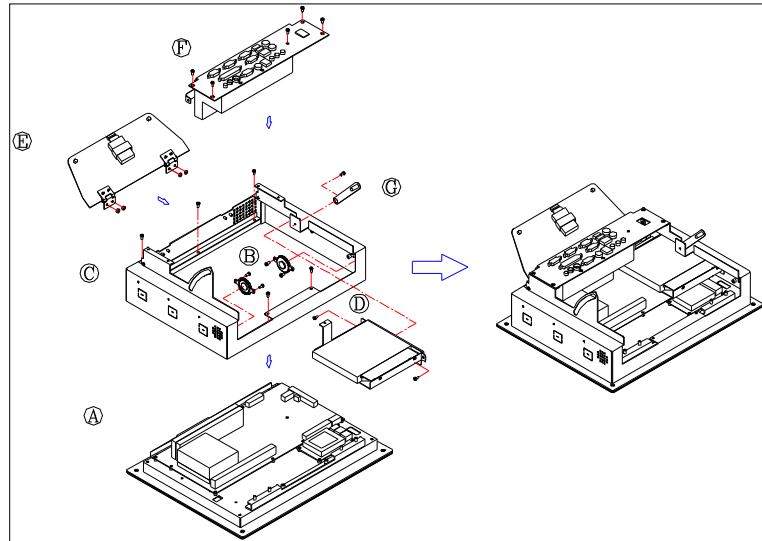
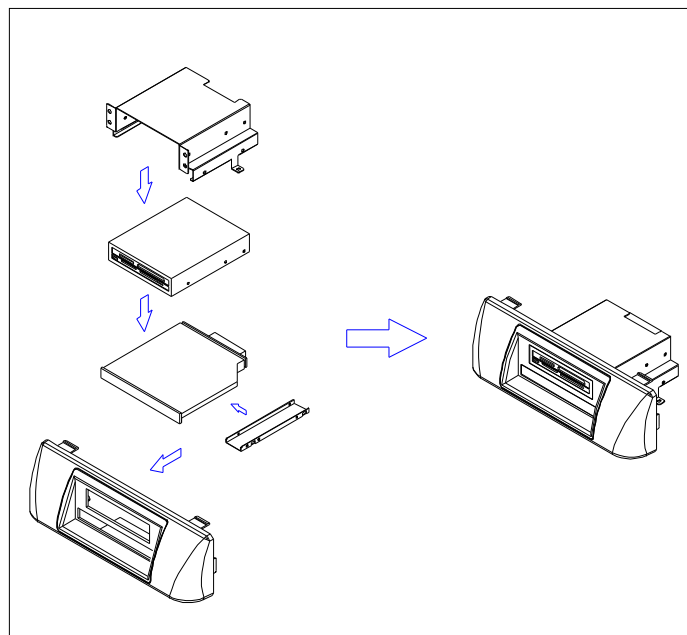

FIGURE 3-8: PANEL PC MODULE ASSEMBLY
FIGURE 3-13. MEDIA READER/CD-ROM MODULE ASSEMBLY
If a thermal receipt printer is integrated with the Kiosk, due to space limitation, the slim CD-ROM device is to be installed in the panel PC chassis as illustrated in Fig. 3-8 and accessed from the right side of the Kiosk cabinet. If no receipt printer is integrated with the Kiosk, the slim CD-ROM device can be integrated with the media card reader module and accessed from the front side.
The panel PC's individual modules are now ready to be integrated to a complete panel PC module. Refer to Fig. 3-8.
1. The first parts to be assembled to the Kiosk cabinet are four M8*23.7 rubber feet. Acting as bumpers to prevent the table surface from abrading by the metal base of the Kiosk cabinet, the rubber feet are simply to be driven tightly to the metal cabinet from the base (A).
2. Fix the two butt hinges (B) to the cabinet with two M3 K-lock nuts for each. The K-lock nuts are zinc-plated nuts with attached free-spinning external teeth lock washer. The external teeth are used for locking and tension. The two butt hinges are used to retain the panel PC module to the cabinet later.
3. Fix the metal bracket (C) to the cabinet with two TMS M3*4 screws. This metal strip is used to click the plastic printer bezel (M) into the Kiosk cabinet.
4. Connect the two USB cables to the USB outlets (D) located at the right side of the cabinet.
5. Retain the support bracket catch (E) to the left side of the cabinet with two M3 nuts. This bracket is used to accommodate the support bracket (Fig. 3-8, G) to sustain the PC module when it is integrated to the Kiosk cabinet.
6. Fix the heat pipe (F) to the left bottom side of the cabinet with two M3 nuts. The heat pipe is used to direct the cabin heat generated by the power supply out of the cabinet.
7. The Kiosk cabinet provides one 50*50*10mm cooling fan (G) to accelerate the cabin ventilation. Attach this cooler to the right side of the Kiosk cabinet with four M3 nuts.
8. Insert the power cord (H) from the opening at the left bottom side of the cabinet. Connect the power cord to the power module and integrate the power module (I) to the left bottom side of the cabinet with three TMS M3*6 screws.
9. Fix the HDD module (J) to the right bottom side of the cabinet with three TMS M3*6 screws. Connect the big 4-pin power cable from the power module to the HDD.
10. Make sure all the cables from the printer power module (K) to the printer module (L) are already properly connected.
11. Integrate the printer power module (K) to the left upper side of the cabinet with three M3 nuts. Retain the printer module (L) to the bottom of the cabinet with four TMS M3*4 screws.
13. Attach the plastic printer bezel (M) to the Kiosk cabinet front side and clip it into place.
3. Fix the metal bracket (C) to the cabinet with two TMS M3*4 screws. This metal strip is used to click the plastic media reader bezel (M) into the Kiosk cabinet.
4. Retain the support bracket catch (E) to the left side of the cabinet with two M3 nuts. This bracket is used to accommodate the support bracket (Fig. 3-8, G) to sustain the PC module when it is integrated to the Kiosk cabinet.
5. Fix the heat pipe (F) to the left bottom side of the cabinet with two M3 nuts. The heat pipe is used to direct the cabin heat generated by the power supply out of the cabinet.
6. The Kiosk cabinet provides one 50*50*10mm cooling fan (G) to accelerate the cabin ventilation. Attach this cooler to the right side of the Kiosk cabinet with four M3 nuts.
7. Insert the power cord (H) from the opening at the left bottom side of the cabinet. Connect the power cord to the power module and integrate the power module (I) to the left bottom side of the cabinet with three TMS M3*6 screws.
8. Fix the HDD module (J) to the right bottom side of the cabinet with three TMS M3*6 screws. Connect the big 4-pin power cable from the power module to the HDD.
9. Retain the media reader/CD-ROM module (K) to the bottom of the cabinet with four TMS M3*4 screws.
10. Attach the plastic media reader bezel (M) to the Kiosk cabinet front side and clip it into place.
11. Insert the panel PC support bracket (Fig. 3-8, G) into the bracket catch (Fig. 3-13, E) at the left side of the Kiosk cabinet. The support bracket can slide in the gutter of the catch to control the up and down of the panel PC module. The status of the peripherals inside the cabinet can thus be monitored.